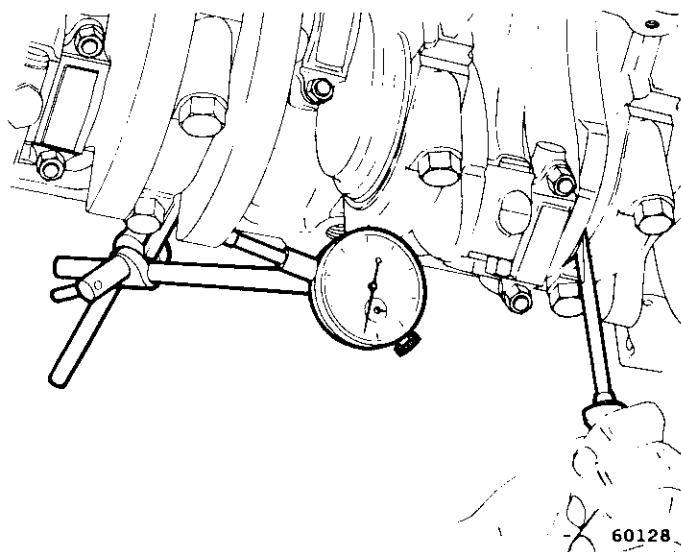

Fig. 1B-104 Crankshaft End Play Measurement
- (1) Attach dial indicator to crankcase adjacent to No. 3 main bearing.
- (2) Set dial indicator push rod on face of adjacent counterweight (fig. 1B-104).